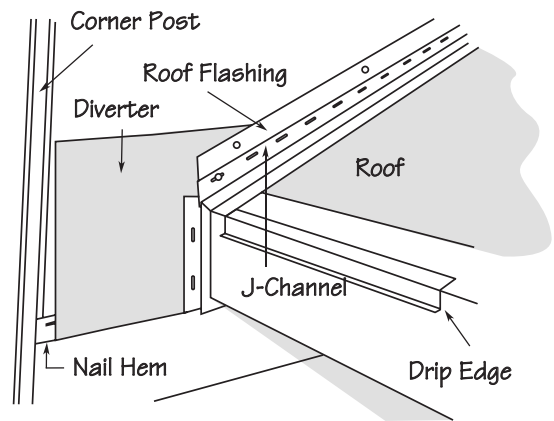

Figure 42.
- Cut a diverter from aluminum trim sheet, making sure it sits on the nail hem of the last full course (Fig. 42). Also make sure to slip it behind all J-channels and roof flashing.